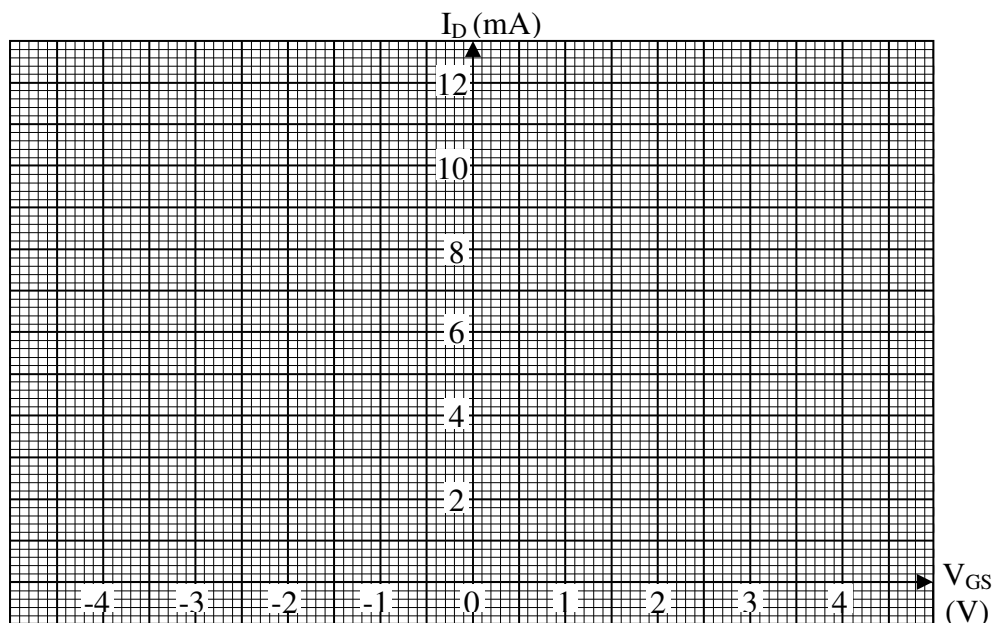

Fig. 7.7 Bias lines and transfer characteristics
4. Using the values above for I_{DSS} and V_P , sketch the transfer curve on Fig. 7.7 using Shockley's equation.
5. If $V_{GS} = -1 \text{ V}$, determine I_{D_Q} from the curve of Fig. 7.7. Show all work in Fig 7.7. Label the straight line defined by V_{GS} as the fixed-bias line.
2. Draw the self-bias line defined by $V_{GS} = -I_D R_S$ in Fig.7.7 and find the network Q point. Record the quiescent values of I_{D_Q} and V_{GS_Q} :
2. Using the I_{DSS} and V_P determined in Exp. 7.3.1, draw the voltage divider-bias line in Fig 7.7 and find the network Q point. Label the resulting straight line as the voltage-divider line.